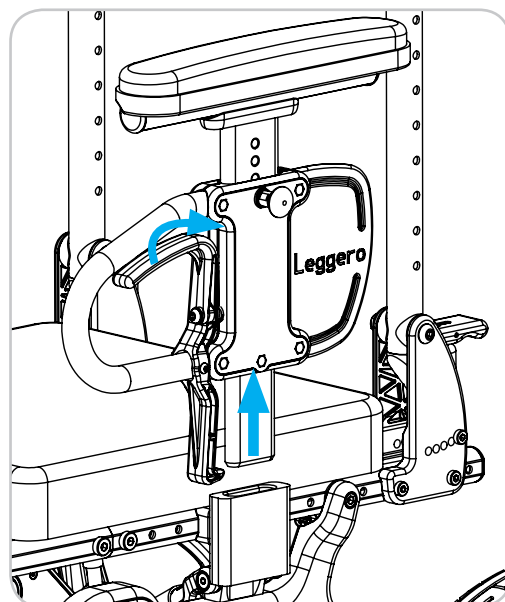

Figure 35
1. Pull lever rearward. Reference Figure 35.